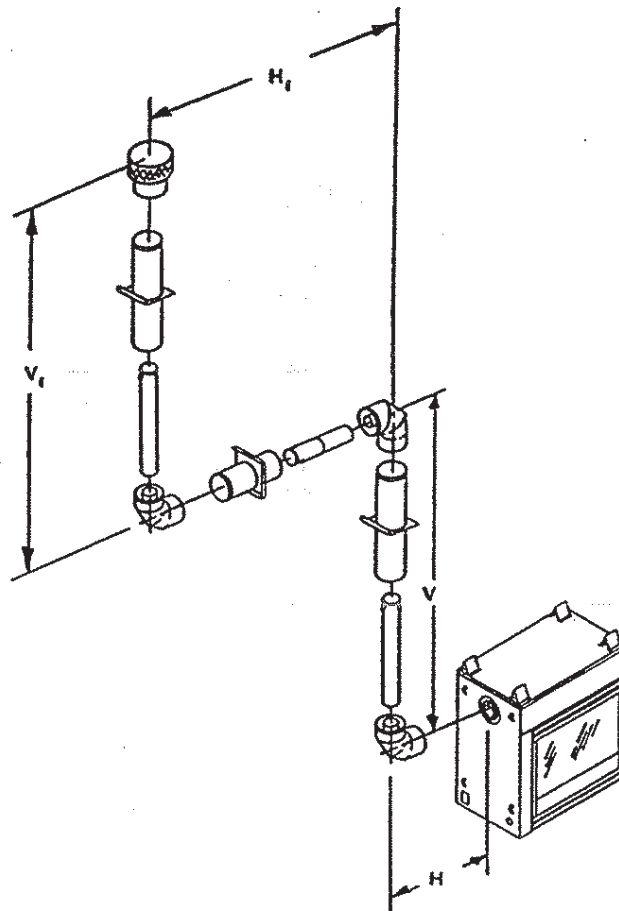

FIGURE 8
Figure 8 and Table 5 show examples of possible installations using three (3) 90-degree elbows. Dimension V is listed as **MINIMUM** first vertical dimensions, dimension H is listed as **MAXIMUM** beginning horizontal dimensions, and dimension H+ H1 is listed as corresponding **TOTAL MAXIMUM** horizontal dimensions.